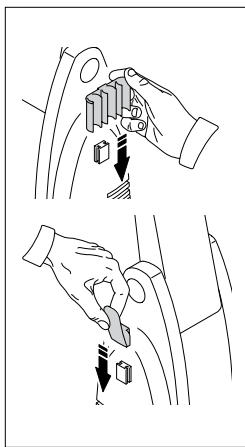

Fig. 1
- The **BLUE CLEAN POWER WASHER** requires some minor assembly, the accessory holder and the electric power cord holder (Fig. 1). Slide these pieces onto the grooves on the either side of the power washer.